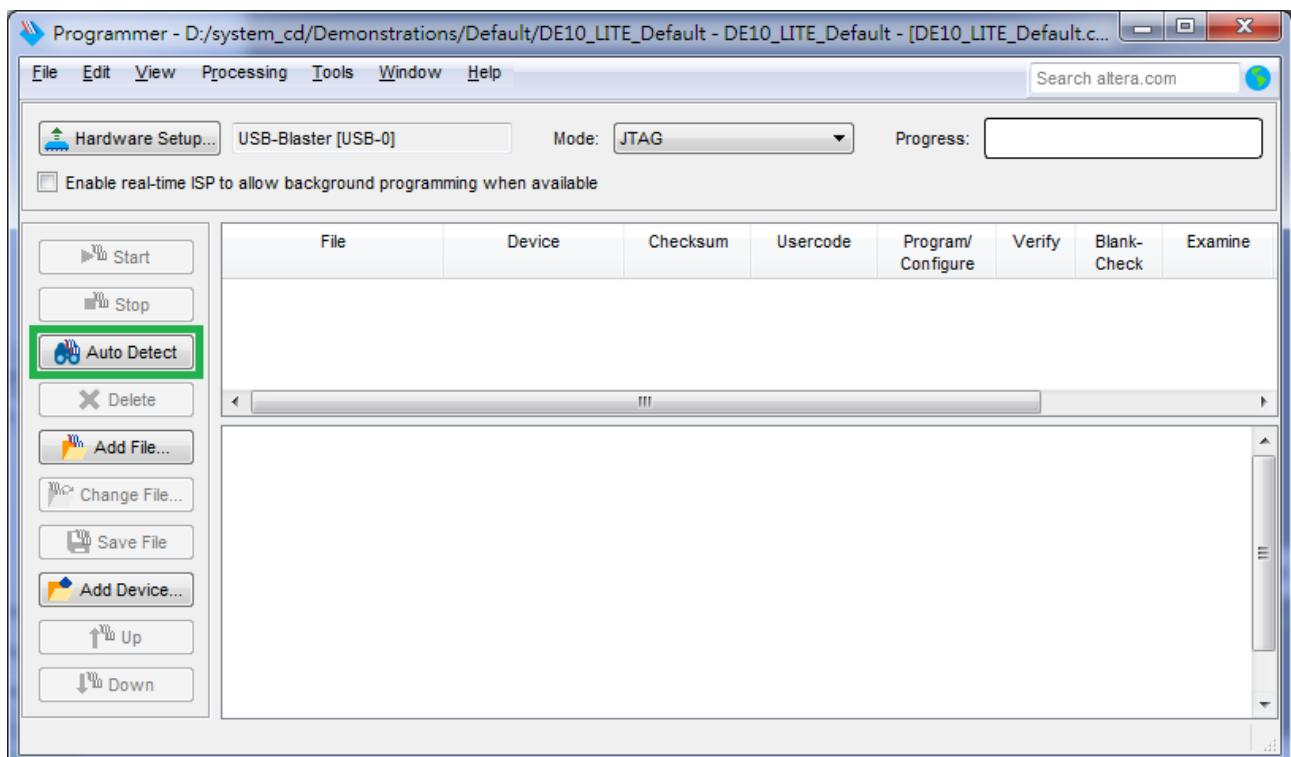

Figure 3-4 Detect FPGA device in JTAG mode
4. Click “Auto Detect” to detect all the devices on the JTAG chain, as circled in Figure 3-4.